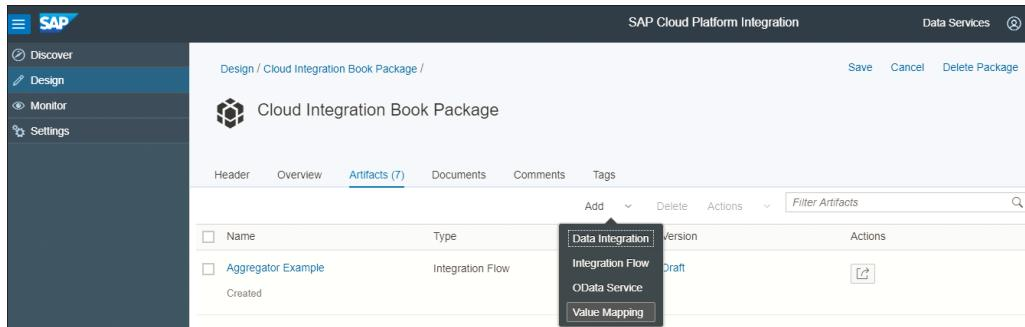

Figure 4.85 Creating a Value Mapping Artifact
2. From your package, click on the **Add** button, and select **Value Mapping** from the resulting menu (Figure 4.85).